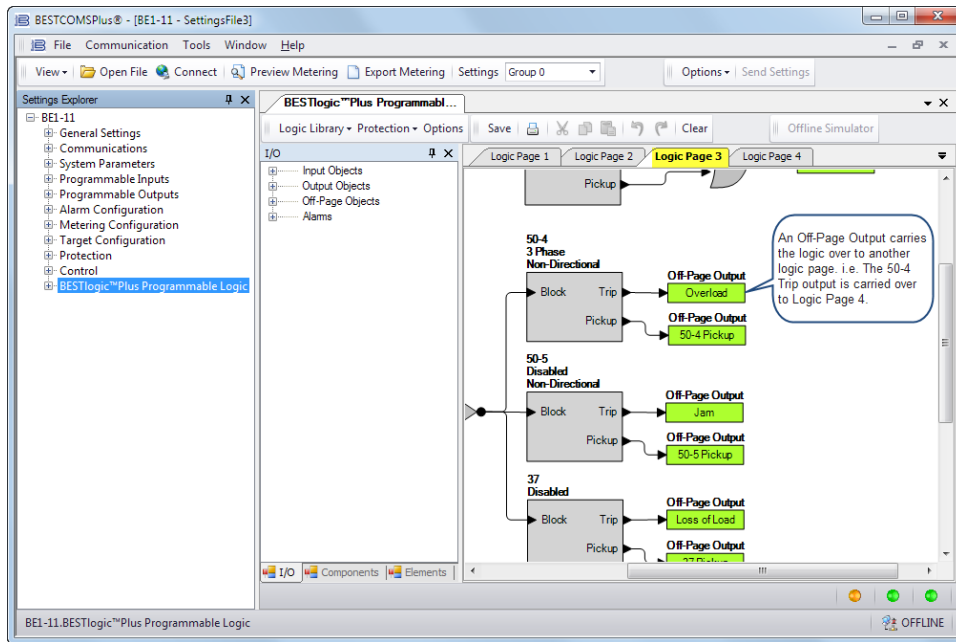

Figure 2-12. BESTlogicPlus Logic Page 3
Step 9: In the Settings Explorer, click BESTlogicPlus Programmable Logic to open the logic diagram. Click the Logic Page 3 tab. See Figure 2-12. Examine the 50-4 element. Off-Page Inputs and an AND gate are used to block operation of the 50-4 element when the motor is starting or stopped. In other words, the 50-4 element is only protecting the motor when it is running.